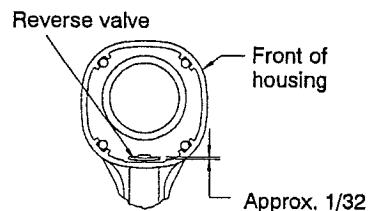

Figure 13
3. When the Reverse Valve has been installed, rotate the Reverse Valve so that the tab on the Reverse Valve is at the rear of the Housing. See Figure 13.